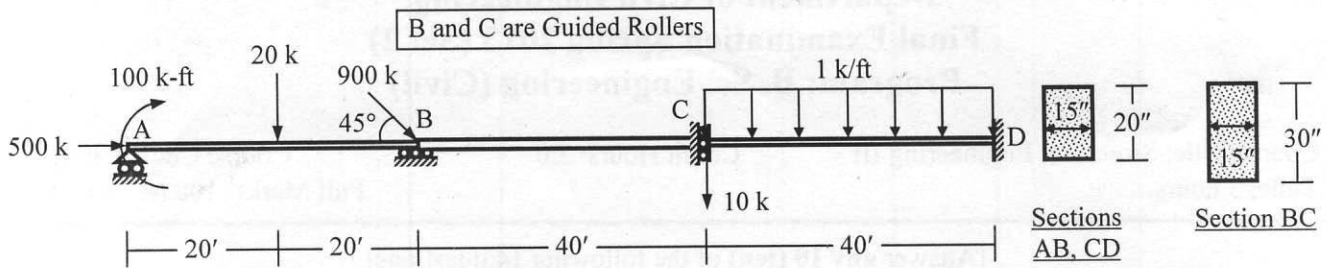

Fig. 5
5. Assemble the stiffness matrix, load vector and specify the boundary conditions of beam ABCD loaded as shown in Fig. 5, considering both axial and flexural deformations [Given: $E = 400 \times 10^3 \text{ k/ft}^2$].
6. Use Stiffness Method to calculate the unknown joint deflections and rotations of the beam ABCD loaded as shown in Fig. 5, considering flexural deformations only with geometric nonlinearity.
7. Consider axial deformations only to calculate the natural frequencies of beam ABCD shown in Fig. 5, using the consistent-mass matrix, if it made of a material with unit weight = 0.15 k/ft^3 .
8. For the beam ABCD loaded as shown in Fig. 5, use the Energy Method (assuming collapse mechanism of AB and BCD) to calculate the required